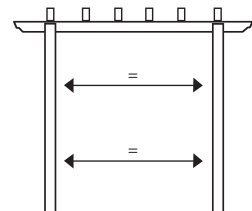

Fig 4.
10. Re-check that the structure is level and upright. (see Fig.4) before fixing the posts permanently.